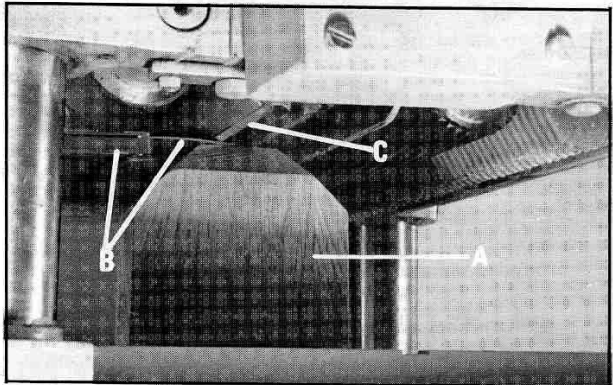

Fig. 52
3. Place the gage block (A) Fig. 52, on the table directly underneath the cutterhead, as shown. Using a .040" feeler gage (B) Fig. 52, placed on top of the gage block, raise or lower the head until the knife (C) just touches the feeler gage when the knife is at its lowest point. Do not move the head any further until the outfeed roll is adjusted.